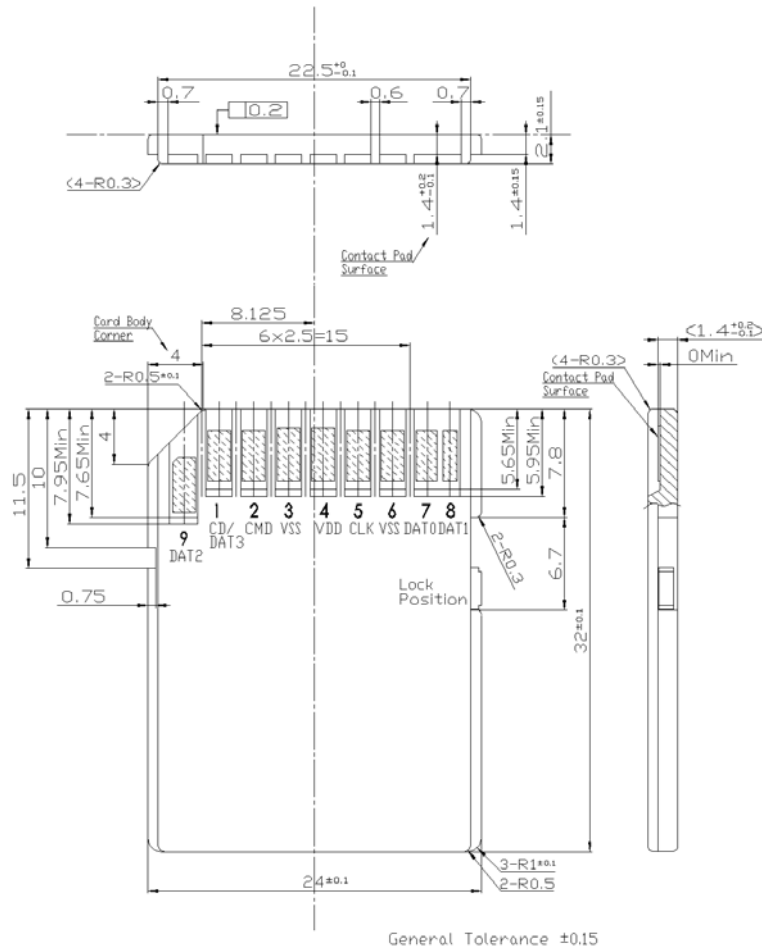

Fig 1 - SD Card Dimensions
- Fig 1 - SD Card Dimensions**